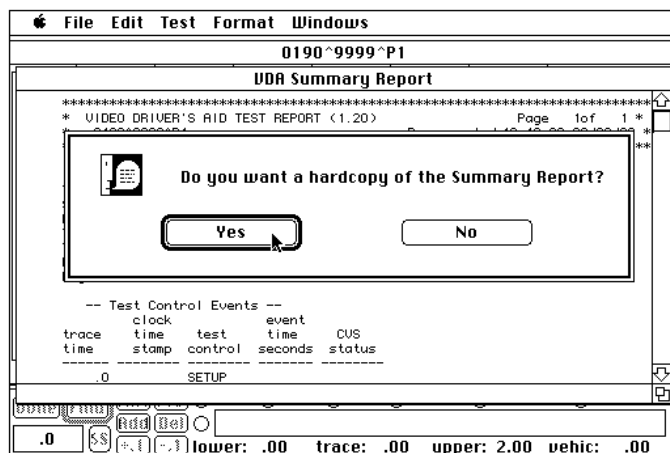

Figure 4
- 8.0 The VDA will prompt you with the message “Do you want a hardcopy of the Summary Report?” Position the mouse pointer on the “Yes” button and click to select it if you wish to print the report. See Figure 4.